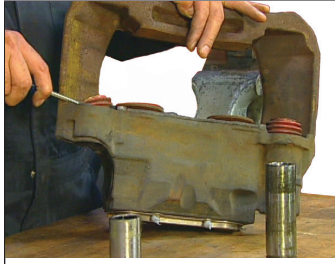

Figure 69 – Remove the Retaining Rings, Guide Pins, and Boots
5.6.10 Remove the boot retaining rings (58) and the guide pins (39) and (40). Use a screwdriver to pry out the inner boots (9). See Figure 69. Discard the removed items.